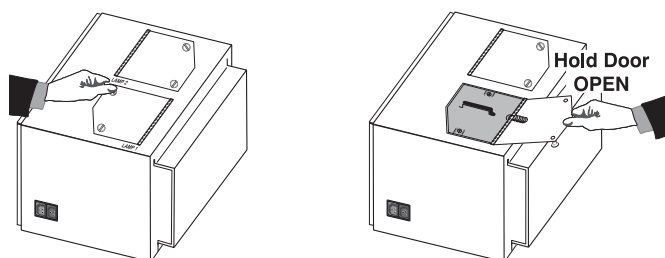

Figure 4.2.
- Step 2 ➤ Open lamp compartment** – Loosen the two screws on the lamp door you want to open. Swing the door open. (Figure 4.2.) *NOTE: Each lamp door is spring-loaded and needs to be held open during lamp replacement.*